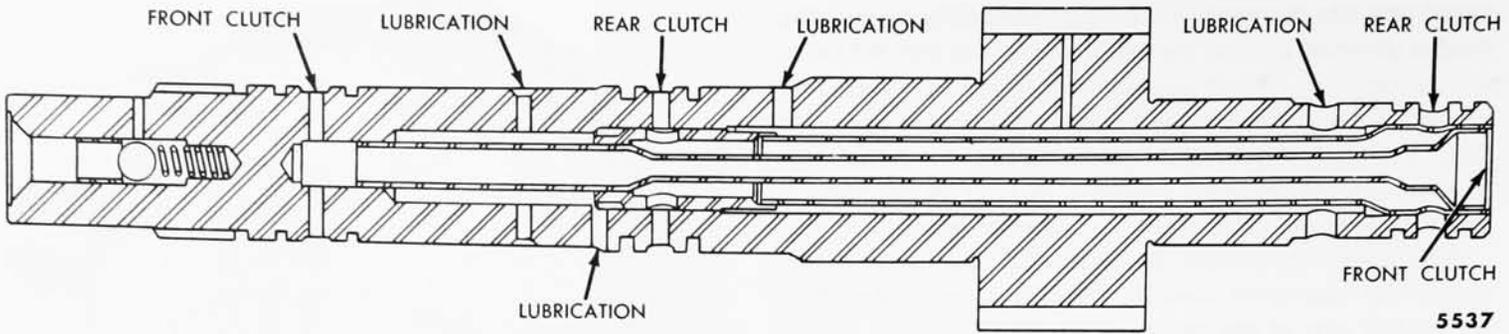

Fig. 6—Primary Sun Gear Assembly
(1) **PRIMARY SUN GEAR ASSEMBLY.** The new primary sun gear has 30 teeth instead of the 27 provided on previous primary sun gears. A ball check valve is installed in the forward end of the primary sun gear shaft for improved front clutch lubrication (fig. 6).